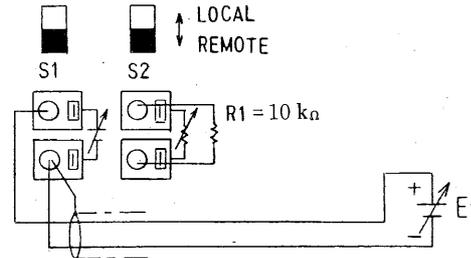

Figure 8
As shown is Figure 8, connect the external voltage and external fixed resistance.
- For E1 connection, use a two-conductor shield. Connect the outer shield as shown in Figure 8.